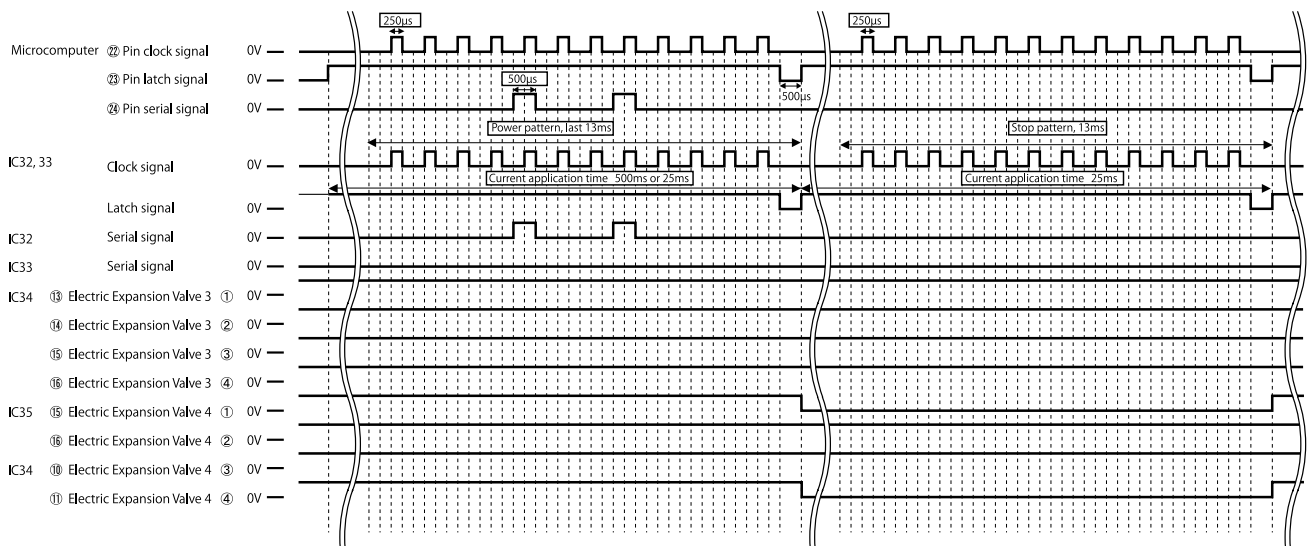

Fig. 5-3 Time Chart
- An example of circuit operation when an expansion valve is powered is shown in the time chart in Fig. 5-3.
- ① A clock signal (16 cycles at 750μs/cycle) is output from pin ② on the microcomputer. (One cycle for the clock signal is 500μs off, 250μs on.)
- ② A serial signal #¹ of the power pattern is synced with the clock signal and output from pin ④ of the microcomputer.